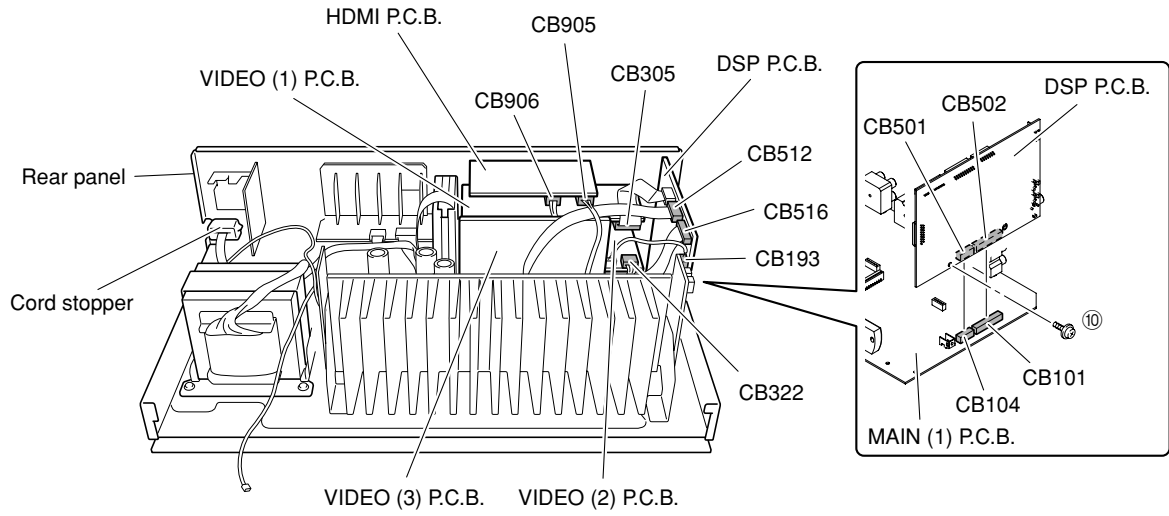

Fig. 2
- a. Remove CB905 and CB906. (Fig. 2)
- c. Remove HDMI P.C.B.. (Fig. 2)
4. Removal of VIDEO (1), (2) and (3) P.C.B.s
- a. Remove CB193, CB305 and CB322. (Fig. 2)
- c. Remove VIDEO (1), (2) and (3) P.C.B.s. (Fig. 2)
- b. Remove cord stopper. (Fig. 2)
- c. Remove rear panel. (Fig. 2)
- d. Remove CB512 and CB516. (Fig. 2)
- e. Remove screw (⑩). (Fig. 2)
- f. Remove the DSP P.C.B. which is connected directly to the MAIN (1) P.C.B. with connectors. (Fig. 2)